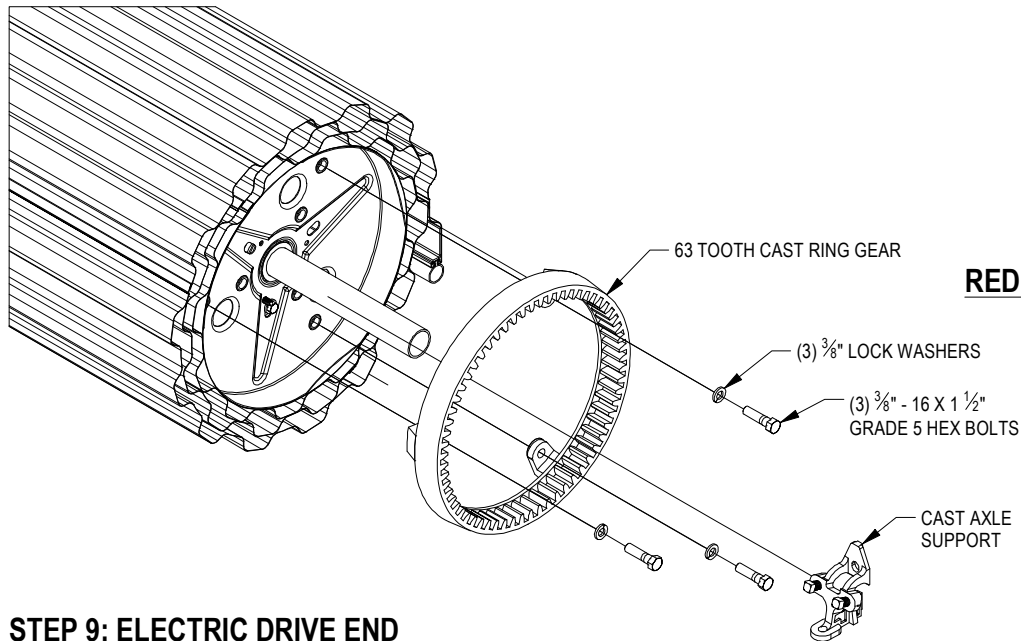

FIGURE 14:
- Fasten 63 tooth Cast Ring Gear to drum using three (3) each $\frac{3}{8}$ " - 16 x 1 $\frac{1}{2}$ " Grade 5 Hex Bolts and $\frac{3}{8}$ " Lock Washers.
- Install two (2) each $\frac{3}{8}$ " - 16 x 1" Square Head Set Screws in the threaded holes in the Cast Axle Support. These will be tightened against the axle later.
- Slide Cast Axle Support over axle. **See Figure 14.**